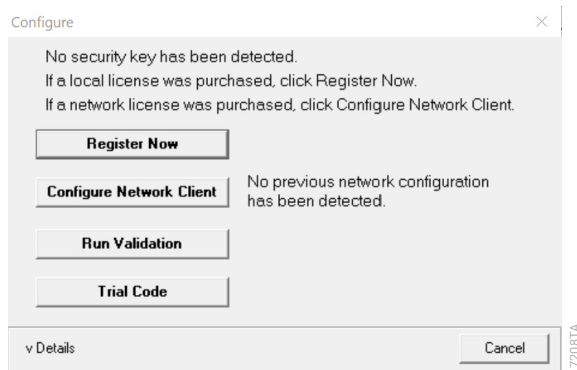

Figure 6. 'Configure' window.
2. Select **Run Validation** in the 'Configure' window (Figure 6).